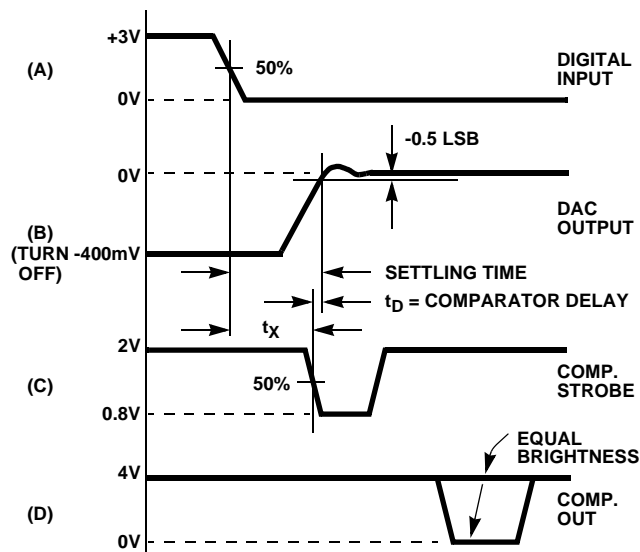

FIGURE 3B.
As shown in Figure 3B, settling time equals  $t_x$  plus the comparator delay ( $t_D = 15\text{ns}$ ). To measure  $t_x$ :
- Adjust the  $V_{LSB}$  supply for 50% triggering at COMPARATOR OUT. This is indicated by traces of equal brightness on the oscilloscope display as shown in Figure 3B. Note DVM reading.
- Switch the LSB to Pulse (P).
- Measure  $t_x$  from scope as shown in Figure 3B. Settling time equals  $t_x + t_D$ , i.e.,  $t_x + 15\text{ns}$ .